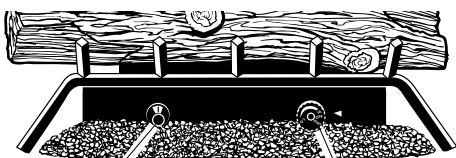

Figure 25 - Control Knob and Ignitor Button Location
- Turn control knob counterclockwise to the PILOT position. Press in control knob for five (5) seconds (see Figure 25).
**Note:** If pilot goes out, repeat steps 3 through 7. This heater has a safety interlock system. Wait one (1) minute for system to reset before lighting pilot again.